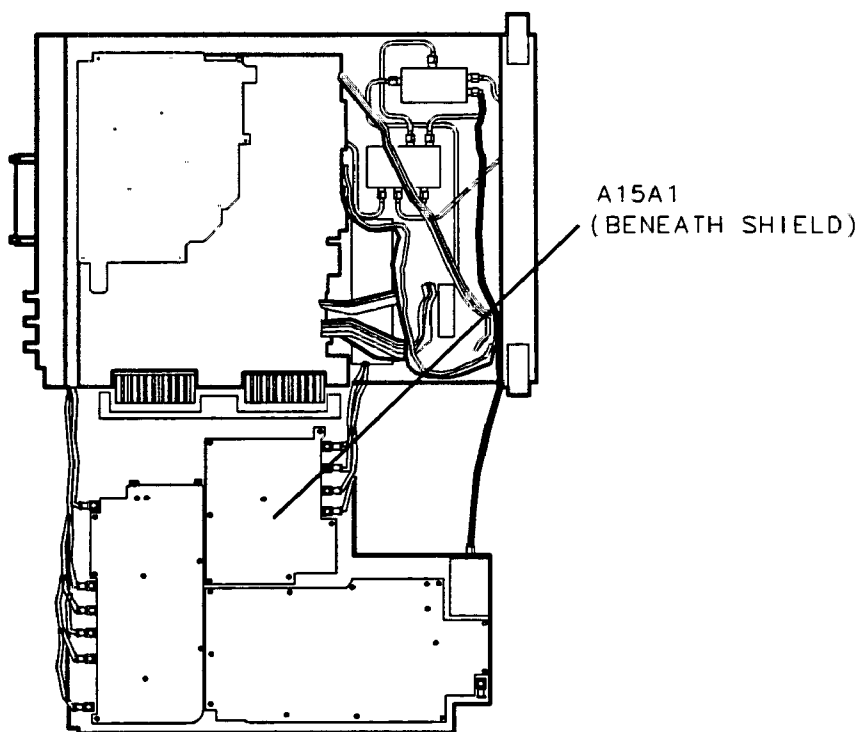

Figure 2-18. Location of A15A1
2. Remove the shield covering the Third Converter and A15A1 Second IF Amplifier. See Figure 2-18.